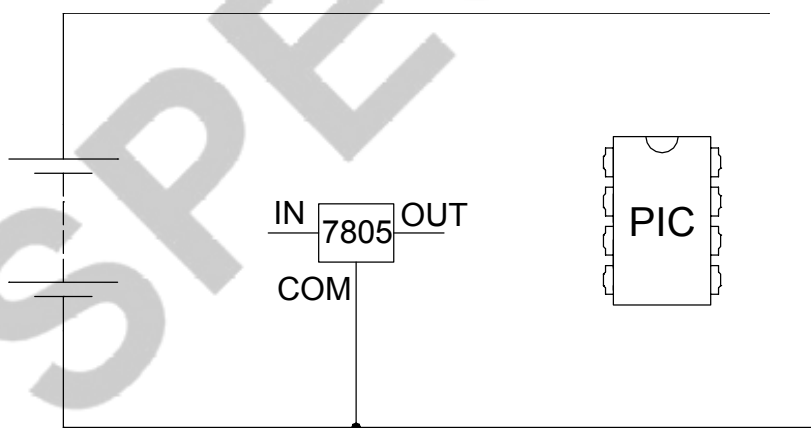

Fig. 2
- (ii) Fig. 2 shows part of the voltage regulator circuit. Add the following connections to Fig. 2.